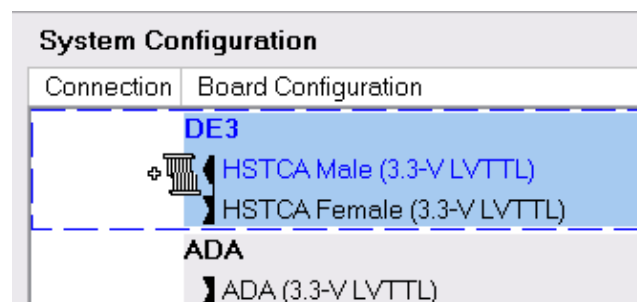

Figure 4.4. Step 1 of establishing a connection.
- i. Move the mouse cursor to the upper connector as shown in Figure 4.4.